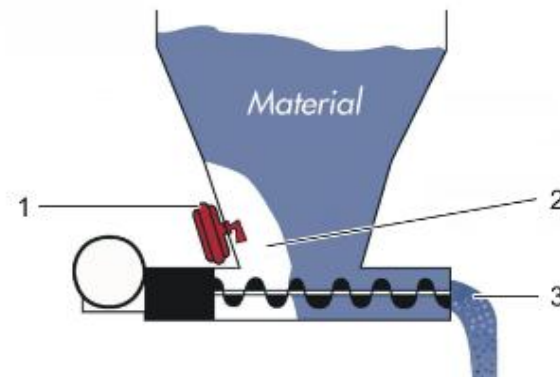

Figure 3 Metering Screw
The metering screw is a volumetric multi-shaft screw meter. It is fitted with 5 metering screws (Figure 3, item 2), an empty level sensor (Figure 3, item 1) and drive motor standstill monitor (Figure 3, item 3).